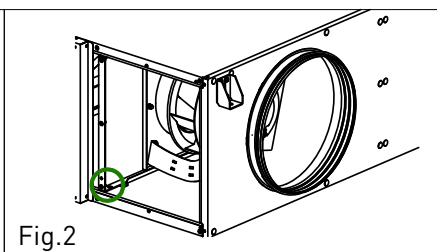

Fig.2
3. Extract carefully the bypass (fig.2).
2. Remove the 4 screws that fix the filter access panel. Hold the panel preventing it from falling when loosening the last screw. (Fig 2).
- Remove the bypass assembly, releasing its electrical connector (Fig. 2).
- Release the screws that lock the metal plate on which the fan is mounted (Fig. 2).